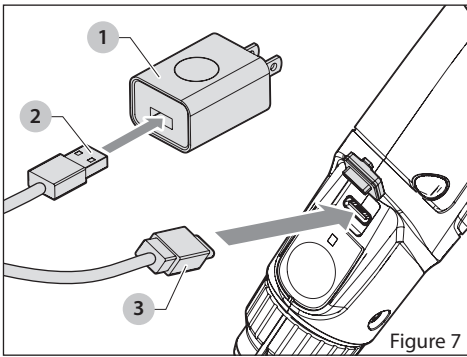

Figure 7
1. Plug the charger (1) into an appropriate outlet.
2. Ensure the USB-C cord (2) is fully inserted into the charger.
3. Insert the other end of the USB-C (3) cord into the charging port located above the power switch on the handle of the power wand tool. See Figure 7.